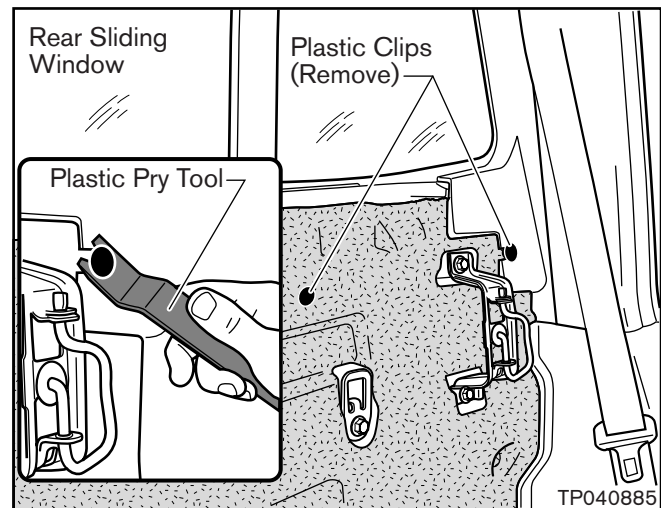

Figure 2
1. Use a Plastic Pry Tool (such as essential Trim Tool Set J-46534 or equivalent) to remove two Plastic Clips from the Carpet Pad (see Figure 2).